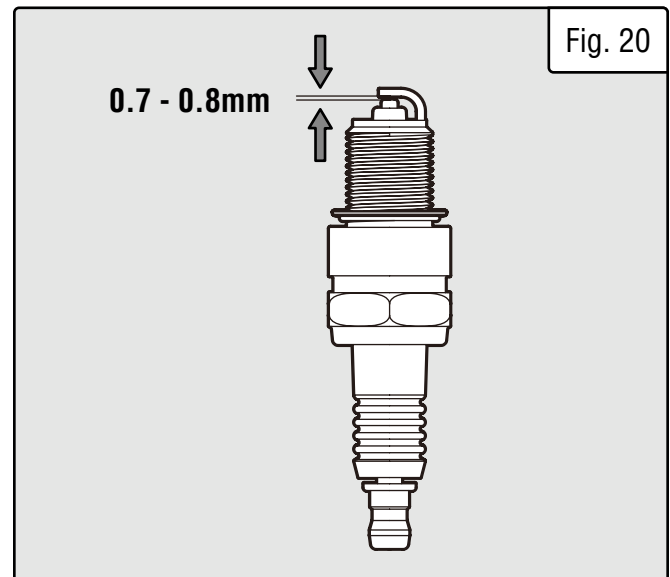

Fig. 20
5. Measure the plug gap with a spark plug gap gauge. The gap should be **0.7 to 0.8 mm (0.028-0.031 in.)** (Fig. 20). Carefully adjust the gap if necessary.